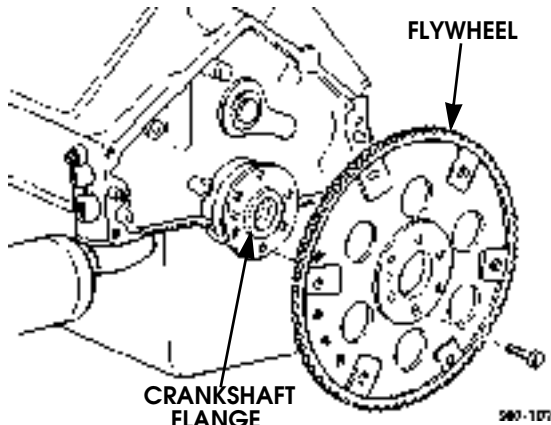

Figure 2-97: Flywheel Removal
1. Remove six capscrews and flywheel from crankshaft (Figure 2-97).